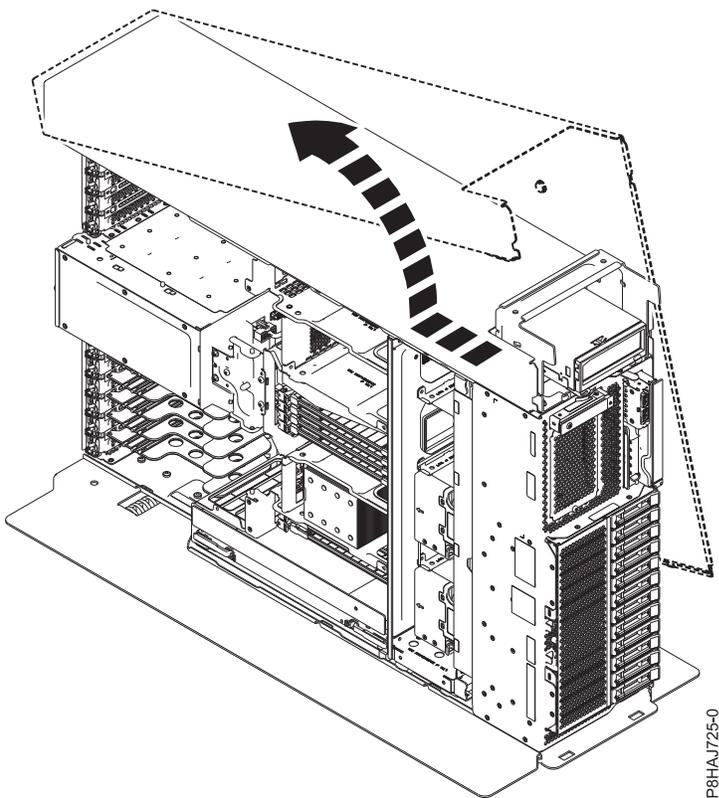

Figure 11. Removing the 8286-41A side cover
5. Slide the side cover off of the system in the direction that is shown in Figure 11 on page 27.